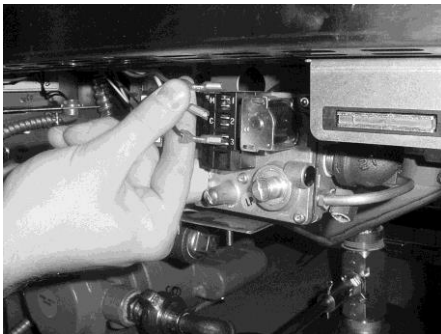

Figure 2-38
2. Label and remove wires from gas valve. Figure 2-38